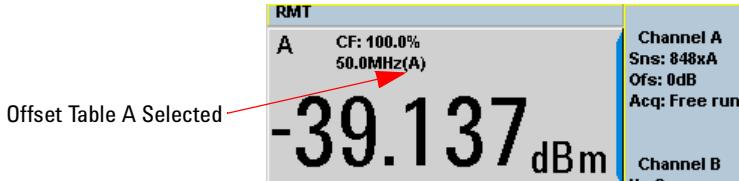

Figure 2-9 Frequency dependent offset indicator
- 4 Press again to display the measurement screen. Figure 2-9 shows which offset table is selected.